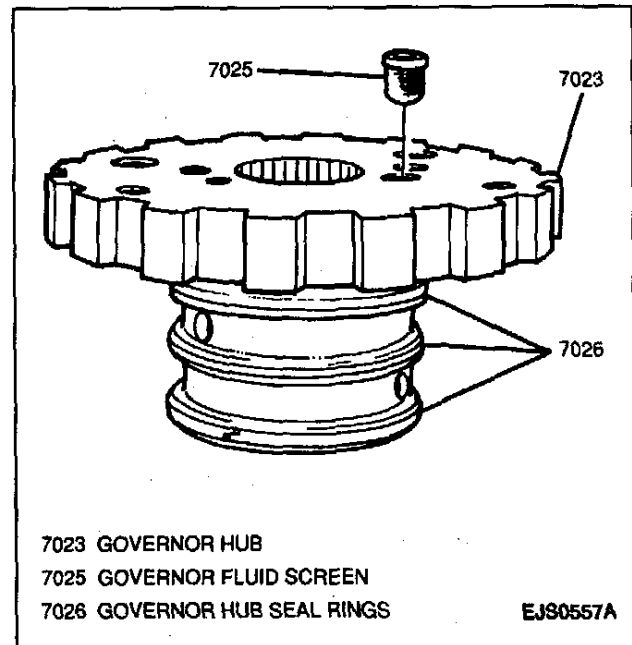

Figure 64—Removing Governor Fluid Screen
7. Governor fluid screen from governor hub (Figure 64).